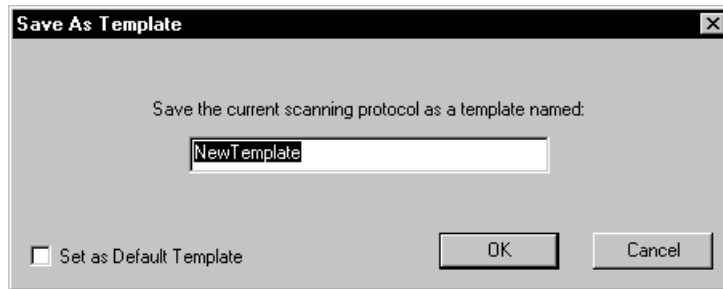

Fig 3-11. The Save As Template window.
- 4 Choose **Save As Template** from the Templates menu. The Save As Template window appears (fig 3-11).